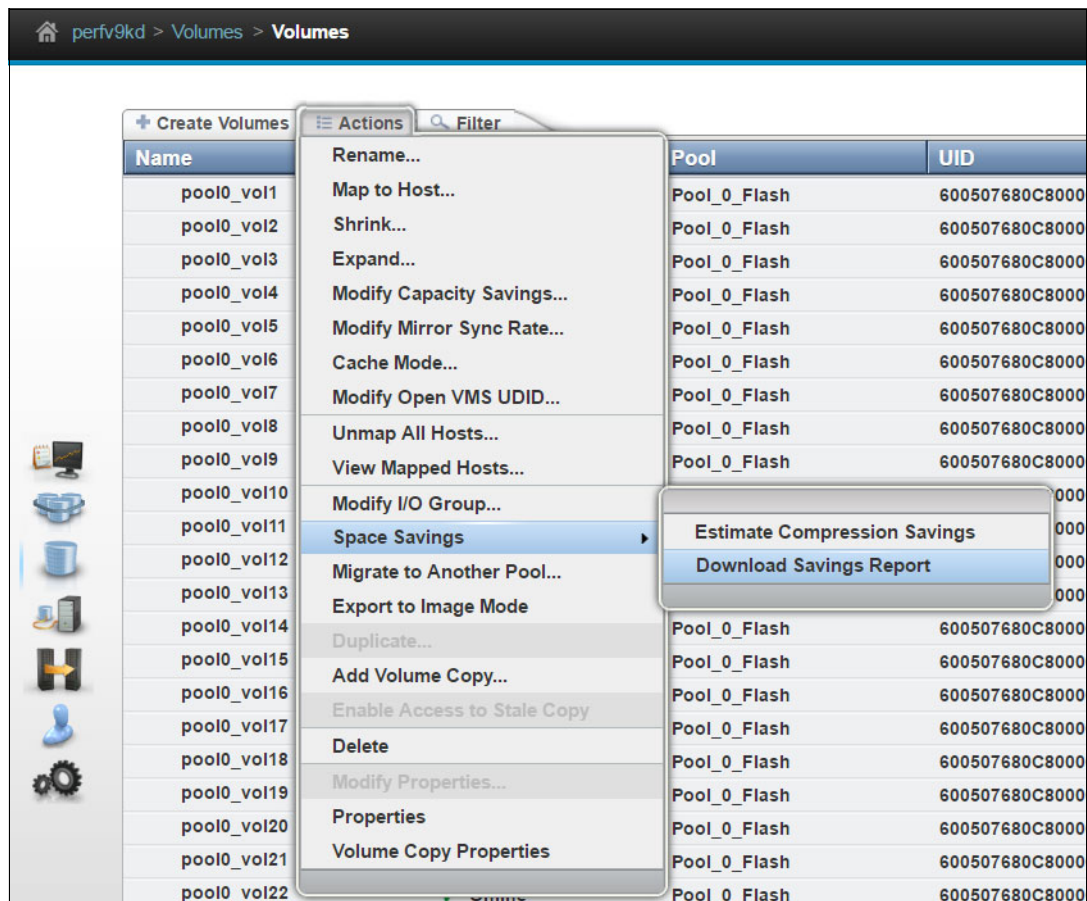

Figure 7-13 Downloading the Space Savings Report
- Figure 7-13 shows how to download the Space Savings Report. In the Volumes > Volumes view, select **Actions** → **Space Savings** → **Download Savings Report**.